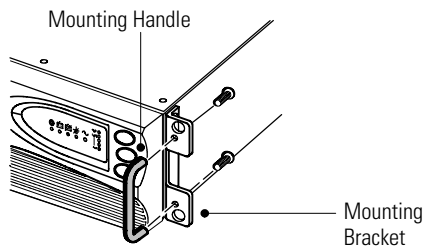

Figure 5. Installing the Mounting Handles
2. Attach the supplied mounting handles to the mounting brackets and secure with the supplied screws (see Figure 5).